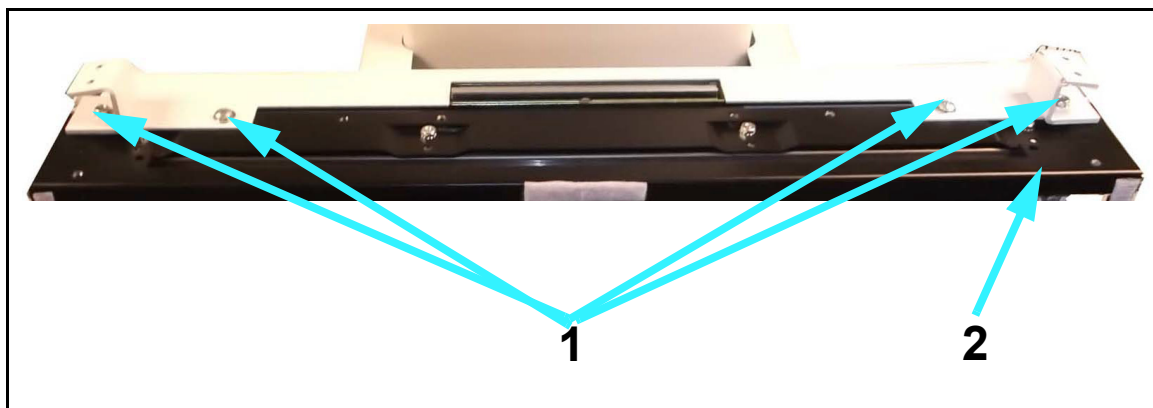

Figure 5-15. Bucky Top Screws
- 17** Unscrew the bucky top screws (1 in Figure 5-15) and remove the bucky (2).